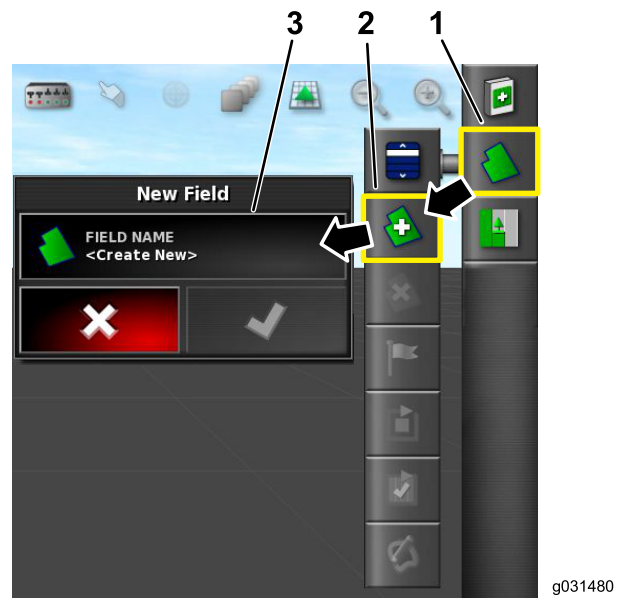

Figure 4
3. Select the field name, name the field, and confirm (Figure 4).